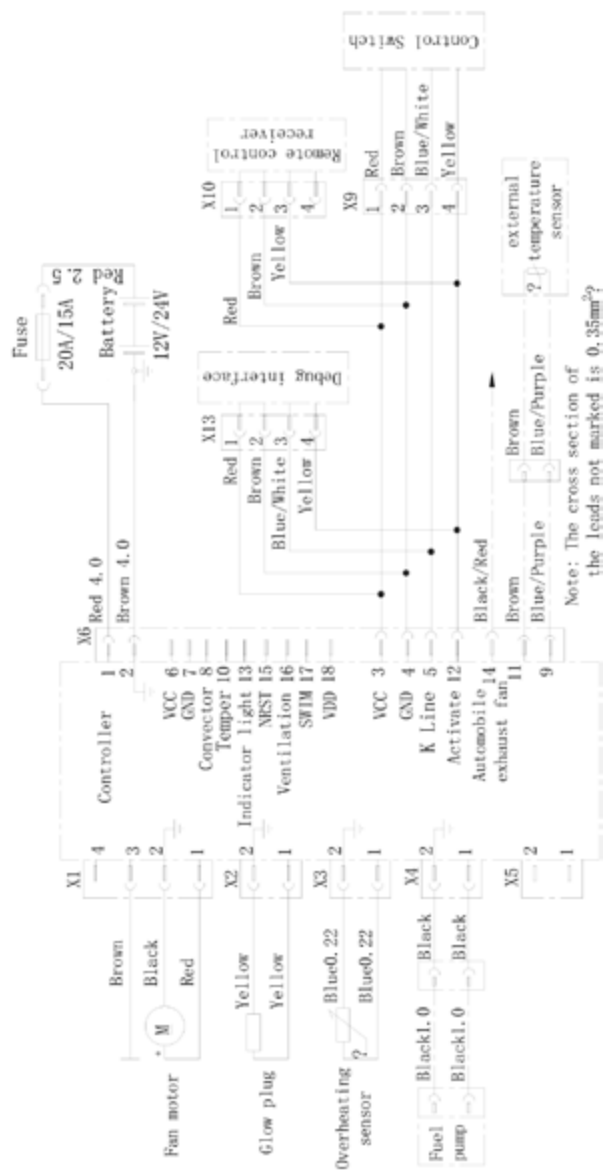

Fig. 41
- ☐ The wiring diagrams for the heater are shown in Fig. 41 (Page 120) and in Fig. 42 (Page 121).